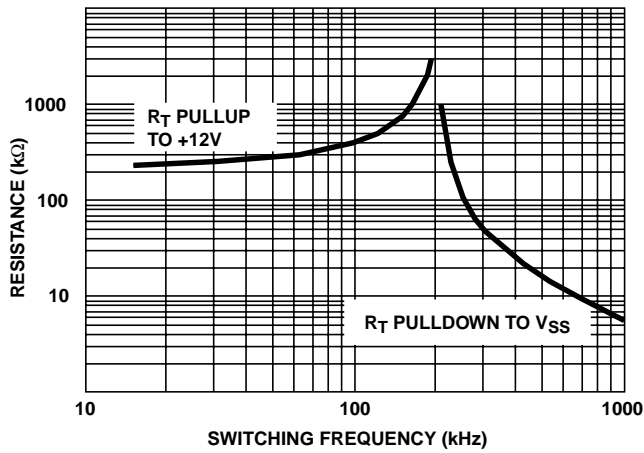

FIGURE 1. RT RESISTANCE vs FREQUENCY
## Electrical Specifications Recommended Operating Conditions, Unless Otherwise Noted. Refer to Figures 1, 2 and 3
**Electrical Specifications** Recommended Operating Conditions, Unless Otherwise Noted. Refer to Figures 1, 2 and 3 (Continued)
The HIP6020 monitors and precisely controls 4 output voltage levels (Refer to Figures 1, 2, and 3). It is designed for microprocessor computer applications with 3.3V, 5V, and 12V bias input from an ATX power supply. The IC has 2 PWM and